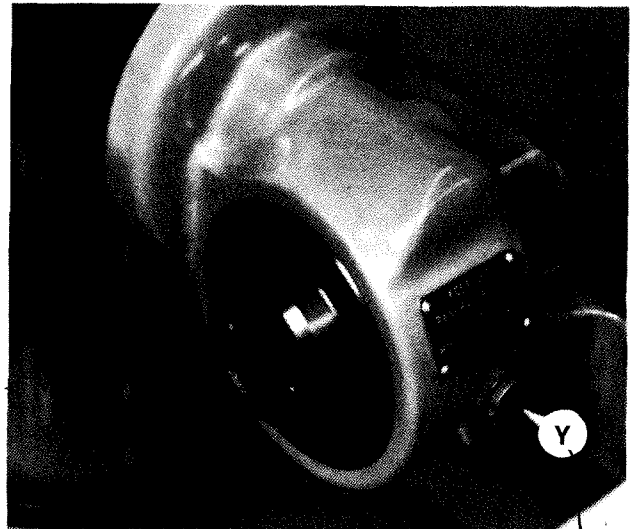

Figure 3.40 - Power Feed Drive Lubrication
Lubricate the power feed drive at filler cap "Y", Figure 3.40, with Mobil® Vactra® Oil No 2 or equivalent. Be sure to keep the oil reservoir full. The power feed motor bearings are grease-packed for life and require no further lubrication.
14. Fill the power feed drive at filler cap "Y", Figure 3.40, with Mobil® Vactra® Oil No 2 or equivalent.